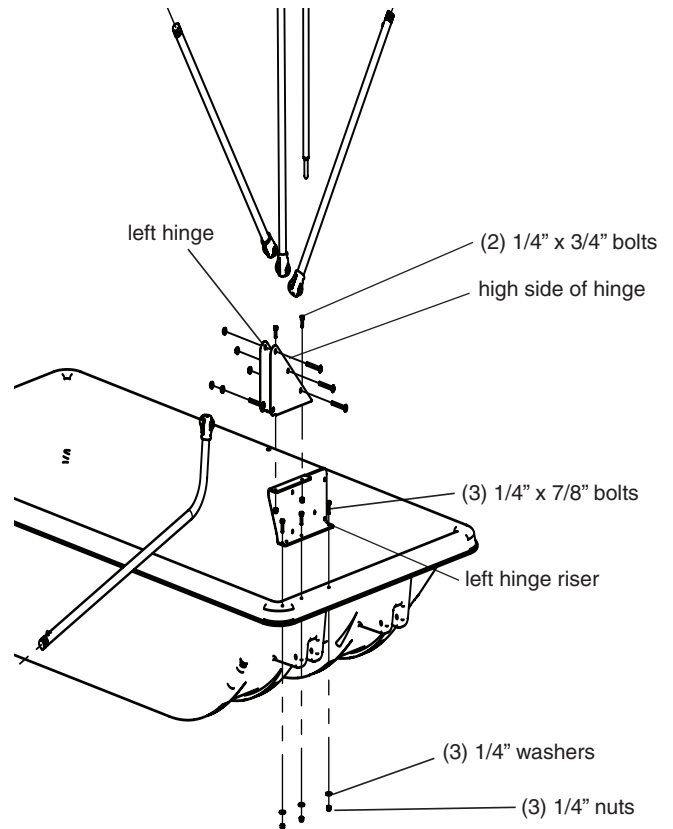

FIGURE 1 (left side shown)
1. Attach the left hinge riser (68052) to the left front upper lip of sled using (3) provided 1/4-20 x 7/8" hex head bolts, nyloc nuts and washers. **SEE FIGURE 1.**
2. Attach the left hinge assembly (68140) to the top of left hinge riser using (2) provided 1/4-20 x 3/4" hex head bolts and nyloc nuts. **SEE FIGURE 1.**
NOTE: Be sure hinge assembly is orientated as shown in FIGURE 1, with high sides of hinges placed to the front of sled and bottom "J" hinge pole to the inside.
3. Attach the right hinge riser (68053) to the right front upper lip of sled using (3) provided 1/4-20 x 7/8" hex head bolts, nyloc nuts and washers. **SEE FIGURE 1.**
4. Attach the right hinge assembly (68139) to the top of right hinge riser using (2) provided 1/4-20 x 3/4" hex head bolts and nyloc nuts. **SEE FIGURE 1.**